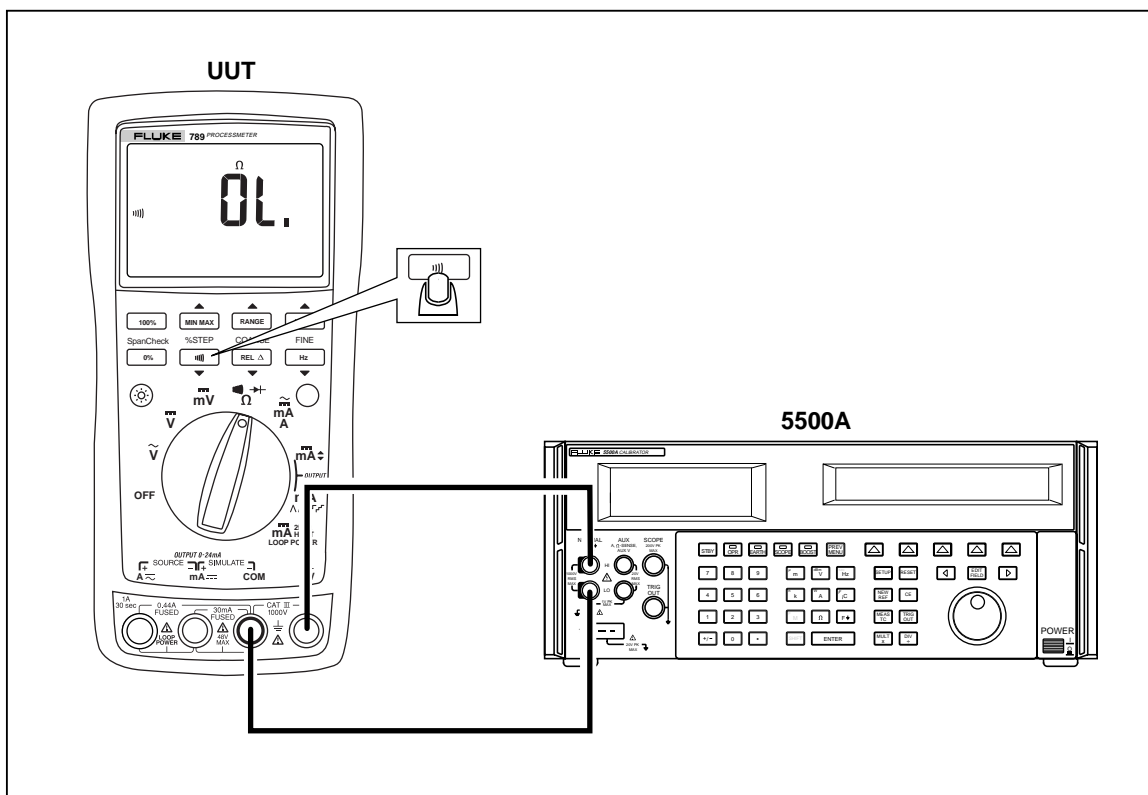

Figure 6. Continuity Test Connections
2. Connect the calibrator to the **COM** and Ω terminals on the UUT as shown in Figure 6.